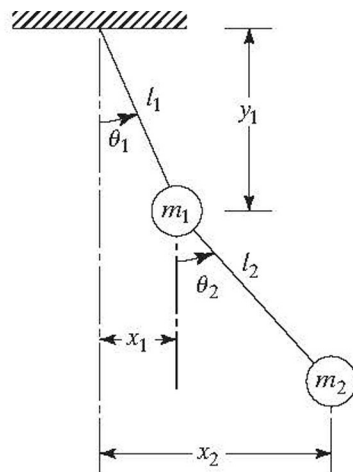

FIGURE 5.25
- 5.6 Set up the differential equations of motion for the double pendulum shown in Fig. 5.25, using the coordinates  $x_1$  and  $x_2$  and assuming small amplitudes. Find the natural frequencies, the ratios of amplitudes, and the locations of nodes for the two modes of vibration when  $m_1 = m_2 = m$  and  $l_1 = l_2 = l$ .